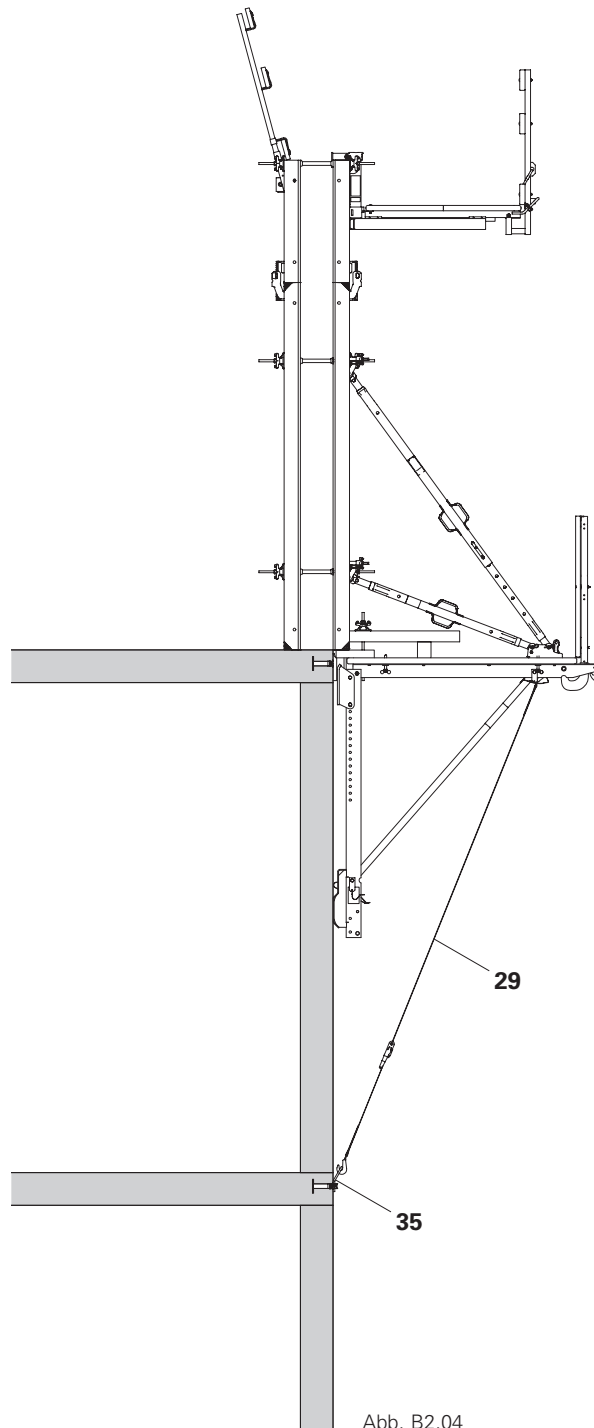

Abb. B2.04
1. Fix Tension Belt Connector Wall (35) with Hex Bolt M24 x 70 to the anchoring of the slab below.
2. Hook the Tension Belt (29) into the belt connector and tension. (Fig. B2.04)